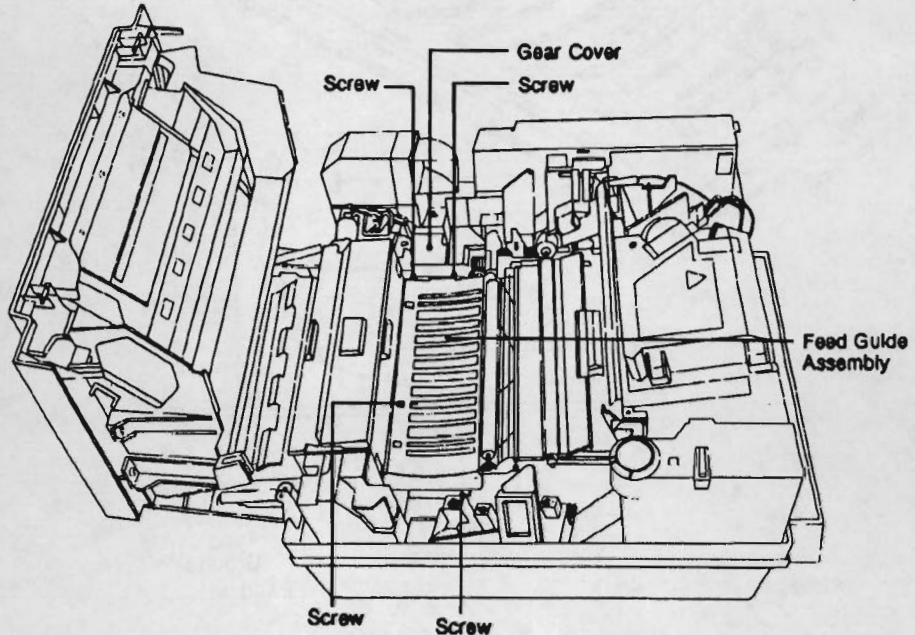
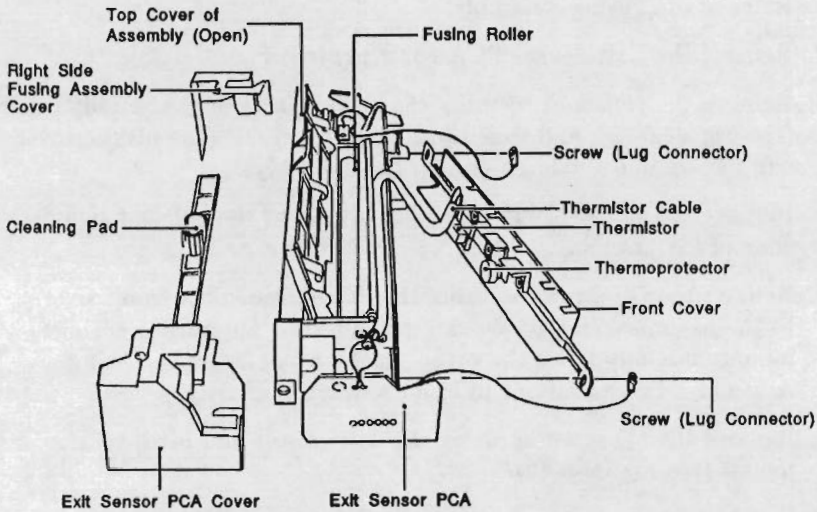

Figure 6-38. Feed Guide Assembly
Figure 6-40. Fusing Assembly Components
2. Remove the Exit Sensor PCA cover (1) (see Figure 6-38).
3. Remove the (1) screw securing the right side Fusing Assembly cover (see Figure 6-38), and slide the cover up and out (the plastic cover will flex around the lever arm on the assembly).
5. Remove the (2) screws securing the Fusing Assembly front cover to the assembly and, to avoid damage to the Thermistor spring mount, carefully move the cover *slightly* away from the Fusing Assembly. Be careful not to lose the wavy washers.
6. Remove the (1) screw securing the Thermistor and lift it off its mount (see Figure 6-40).
7. Remove the (2) screws securing the Exit Sensor PCA, carefully remove it from its two positioning tabs (see Figure 6-40), and remove it and the Thermistor from the Fusing Assembly.
Upon reinstallation, refer to Figure 6-40 for proper routing of the Thermistor cable.
2. Remove the (2) screws that secure the Thermoprotector (see Figure 6-40) and lift it out.